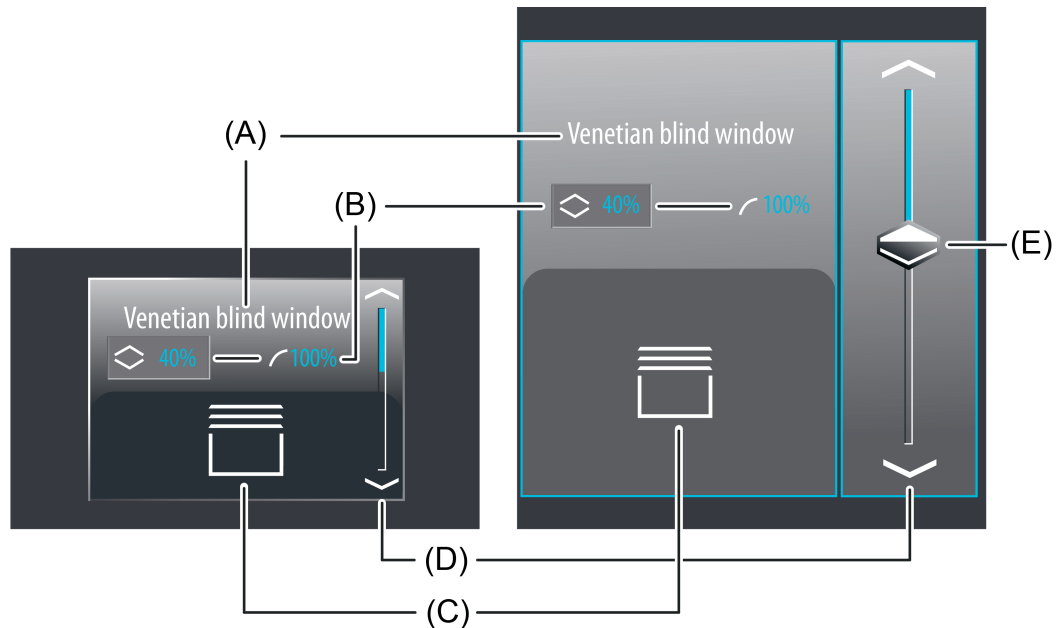

Figure 28: Example of an operating and display element of the function "Venetian blind positioning"
In the selection operation, a slider (E) is also available in addition to the sensor surfaces \wedge / \vee or \langle / \rangle for positioning in the end positions or for value adjustment (figure 28). It is possible to specify positions for slat or blind/shutter heights directly with graphic support using the slider via the status values depending on the selection. For this purpose, the slider can be set by finger pressure or continuously moved. To set the slider, you must touch the slider area at the required position with your finger. The slider then jumps immediately to the required position. At the same time, the device transmits the position value specified thus as a setting to the bus. Alternatively, you can move the slider continuously in the slider area with your finger. During the movement of the slider, the device transmits values according to the specified value transmitter level of 10 % time-controlled and gradually. As a result, the slat or blind/shutter position of the activated system already changes during the slider adjustment, for example, whereby in the ideal case the operator immediately receives a visual feedback on the drive movement and position. The time that must elapse before the device outputs a new position level during an adjustment is preset to 600 ms. Thus, the time of the value adjustment and the value transmitter level affect the control speed of the slider.
The display area contains different display elements (figure 28) that are influenced by parameters. A name can be assigned to each KNX function in the configuration software (A). This text name is centred in the display element for display whereby controllable KNX functions are identified for the user (e.g. "Venetian blind window"). In addition, two status values (B) for blind/shutter height and slat position can be displayed below the name, which display position values in plain text ("0...100 %") either depending on the object values of the position feedbacks of the Venetian blind actuator addressed or alternatively directly depending on the position value presetting of the operating element. After a device reset, the display shows "---%" until feedback object values of the status values are received or position values are specified. Similarly to the status values, a symbol (C) can be displayed in the lower display area.